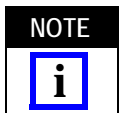

Figure 1
Each seating tool consists of a holder with 10 insert plates (quantity matches number of connector columns) and an adapter. The seating tool features a cutout to allow for the guide pin of the connector. See Figure 1.
3. Orient the seating tool over the connector so that the insert plates face the alignment slots of the connector and the cutout aligns with the guide pin of the connector (shown in Figure 1). Then lower the seating tool into the connector until it bottoms on the floor of the connector.